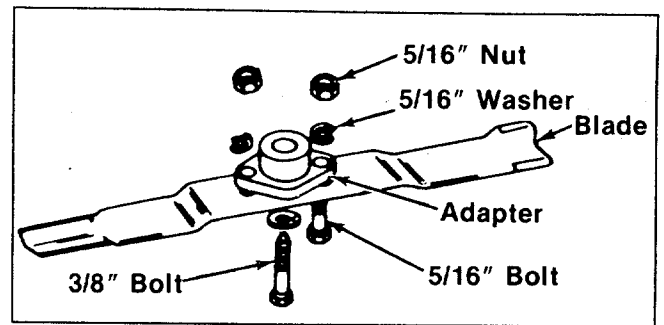

FIGURE 19. BLADE REMOVAL
1. Remove the large bolt and lock washer which holds the blade and adapter to the blade spindle. See figure 19.
3. If the blade or blade adapter needs replacing, remove the two small bolts, lock washers and nuts which hold the blade to the adapter. See figure 19.